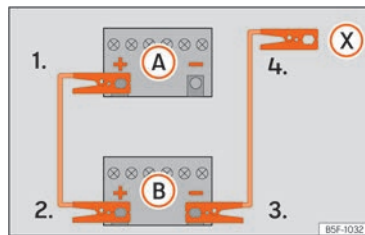

Fig. 190 Diagram of connections for vehicles without Start Stop system
4. *Vehicles without a Start-Stop system:* connect one end of the black jump lead to the negative terminal  of the vehicle providing the current  » Fig. 190.